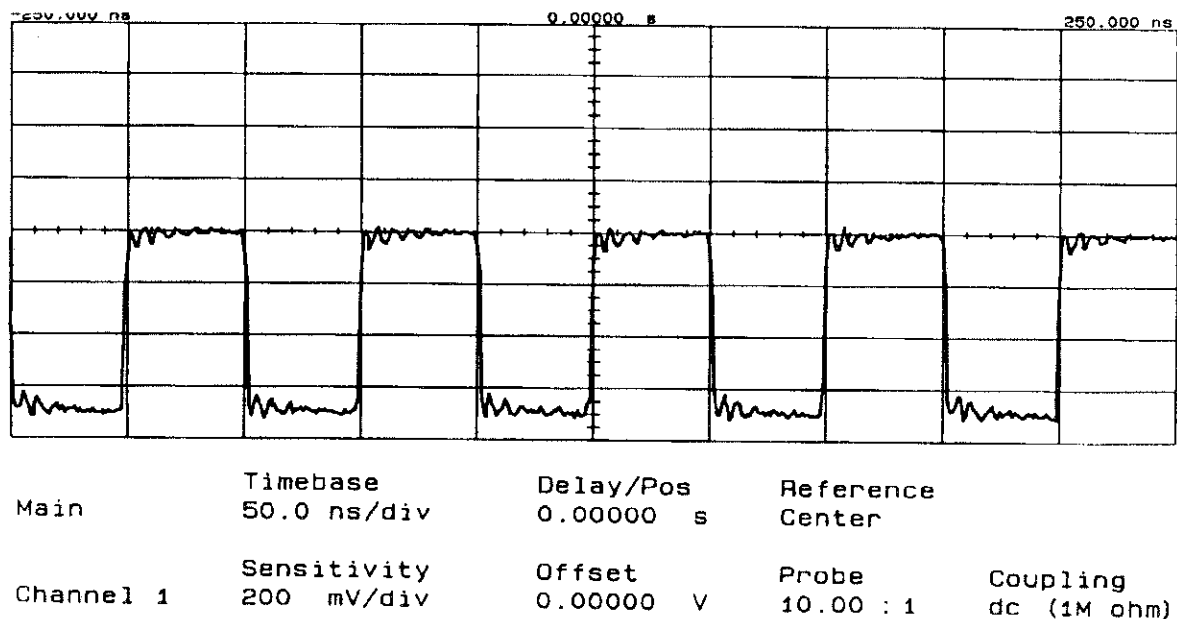

Figure 7-5. Waveforms at A2J2 and A2J4
- E. Move the cursor to the Channel A [B] level field. Using the ENTRY/MARKER knob, vary the triggering voltage  $-480$  mV to  $+480$  mV. Verify that A2J2 [A2J4] outputs an EECL 10 MHz square wave throughout the whole range of triggering voltage. (See *Figure 7-5*.)